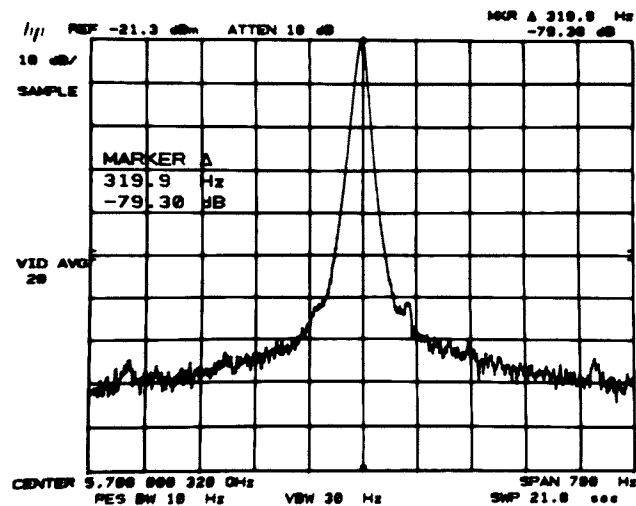

Figure 4-31. Noise Sidebands Measurement
9. Press MARKER PEAK SEARCH, Δ and key in 320 Hz. Record the MARKER Δ amplitude: _____ dBc. See Figure 4-31.